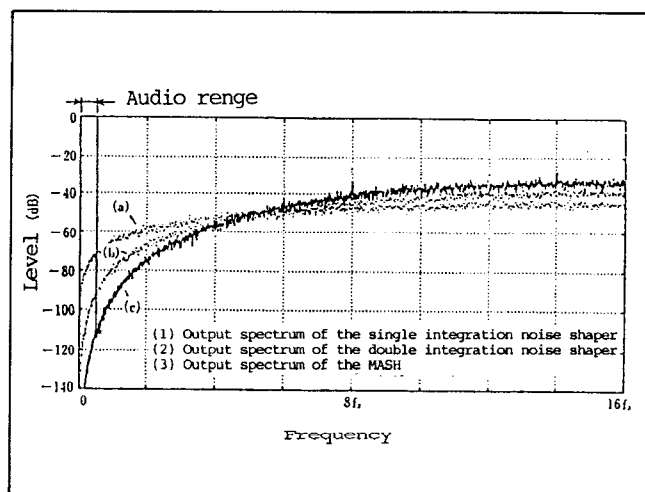

Figure 5-14 Noise Shaper Output Spectrum
The quantization error, V_q is a random value and the factor $(1 - Z^{-1})$ in this equation represents a differentiation response. Eq. (1) tells us, therefore, that the spectrum of the quantization error, V_q in the single integration noise shaper has an attenuation slope of -6 dB/oct toward lower frequencies as shows in figure 5-14.
The double integration noise shaper thus provides a greater attenuation of quantization noise than that obtained with the single integration type, as shows in figure 5-14.